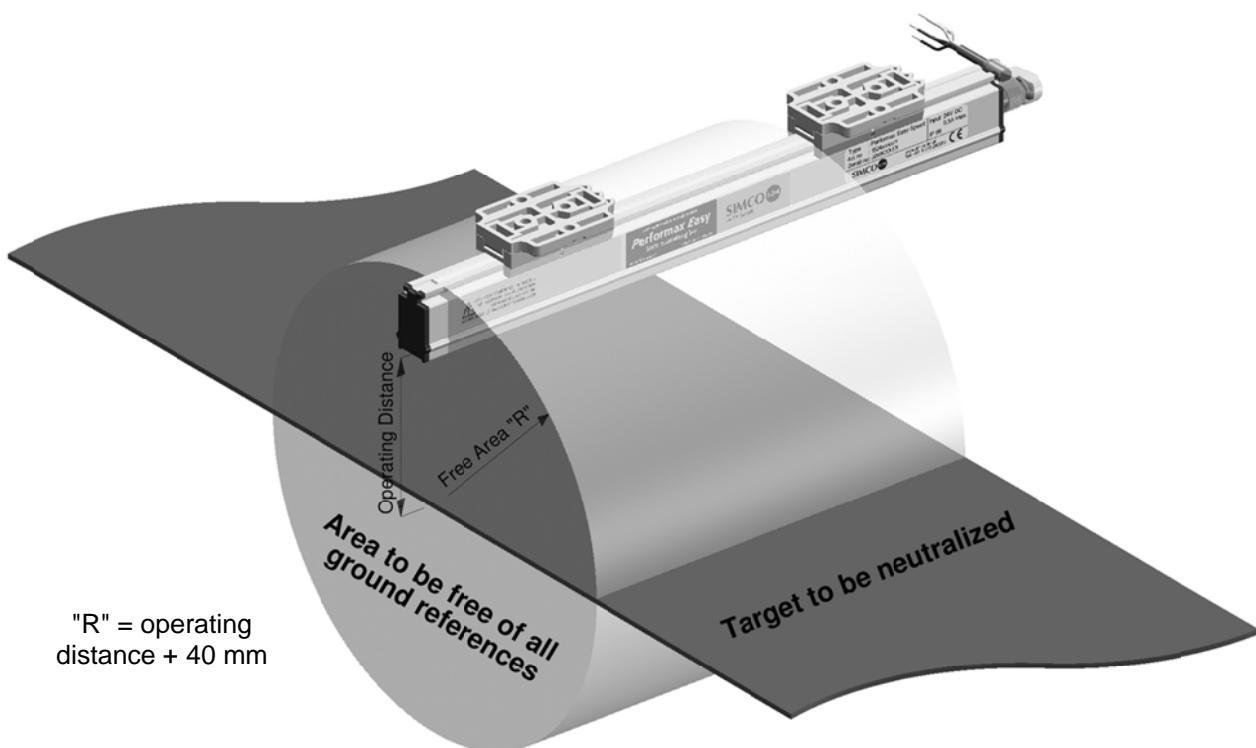

Figure 3: Optimum position of the Performax Easy and Performax Easy Speed
- **For optimum results, the anti-static bar must be fitted as per Figure 3.**
(see fig. 3, 4 and 5)